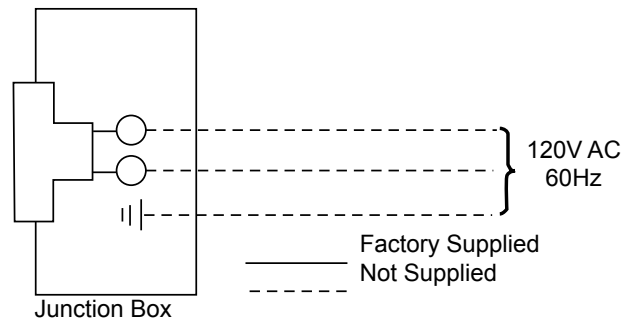

Figure 20. Junction Box Wiring Diagram
3. The junction box cover has a factory installed “romex” style strain relief connector. After connecting the wires, route the wire leads through this connector. Refer to the wiring diagram in Figure 20.